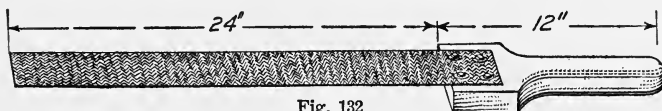
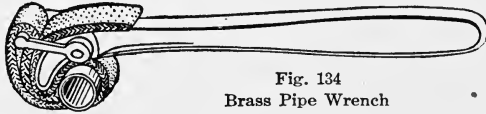

Fig. 132
Fig. 134
**Wrenches for Nickel-Plated Pipe.**—A friction pipe wrench suitable for making-up brass and nickel-plated pipes, which can be made by any fitter in a few minutes, is shown in Fig. 132. A piece
and heating supplies. One of such wrenches is shown in Fig. 134. It is a modification of the wrench shown in Fig. 132, over which it possesses no advantage except that it may be purchased ready made. The split-coupling clamps used in a